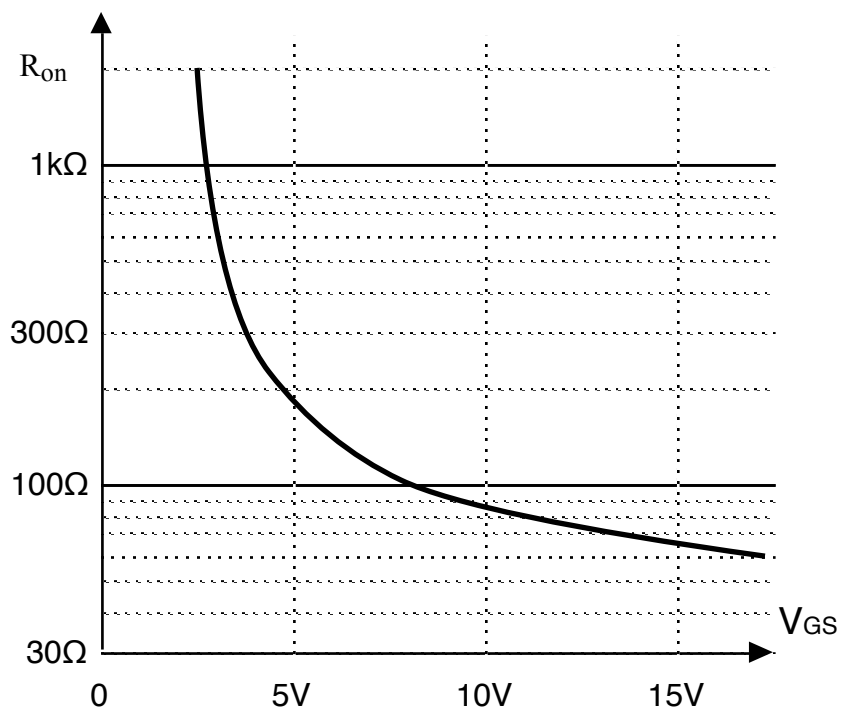

Figure 6.7
Resistor R1 is replaced by the series combination of $R_{1A} = 100\Omega$ and a MOSFET from the MC14007 array. The MOSFET is being used in the triode region as a voltage controlled resistor. A typical plot of channel resistance R_{on} vs. gate control voltage V_{GS} is shown in Figure 6.7. Note that as gate voltage increases, R_{on} decreases, which increases the noninverting gain of the U1 op-amp circuit. (You may need to use a smaller value of R_{1A} if your MOSFET has a different R_{on} vs. V_{GS} characteristic.)
- 3.2 From the R_{on} vs. V_{GS} curve in Figure 6.7, approximately what gate drive voltage do you expect will produce this R_{on} ? (Your MOSFET may have a different curve).